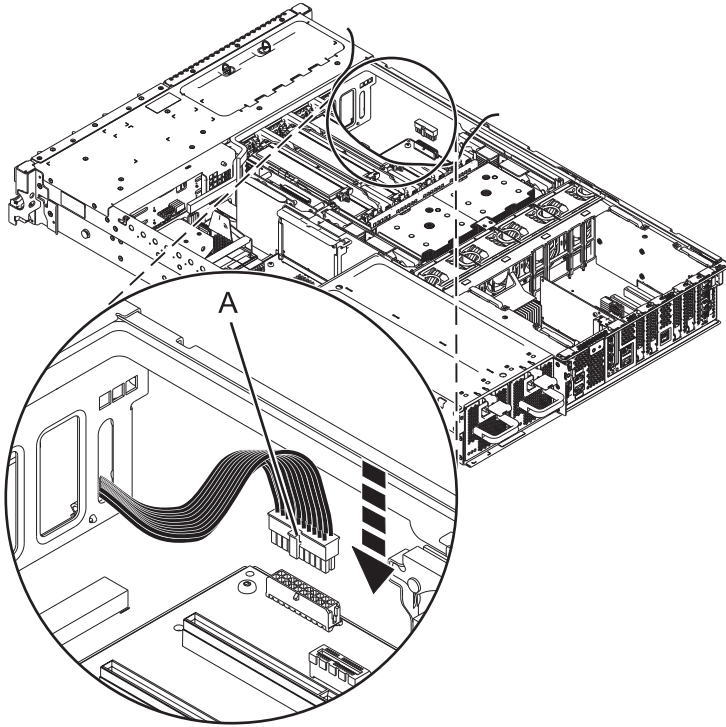

Figure 12. Connecting the fan cable
10. Connect the fan cable by pressing the fan cable (A) into the fan cable connector. See Figure 12 on page 16.